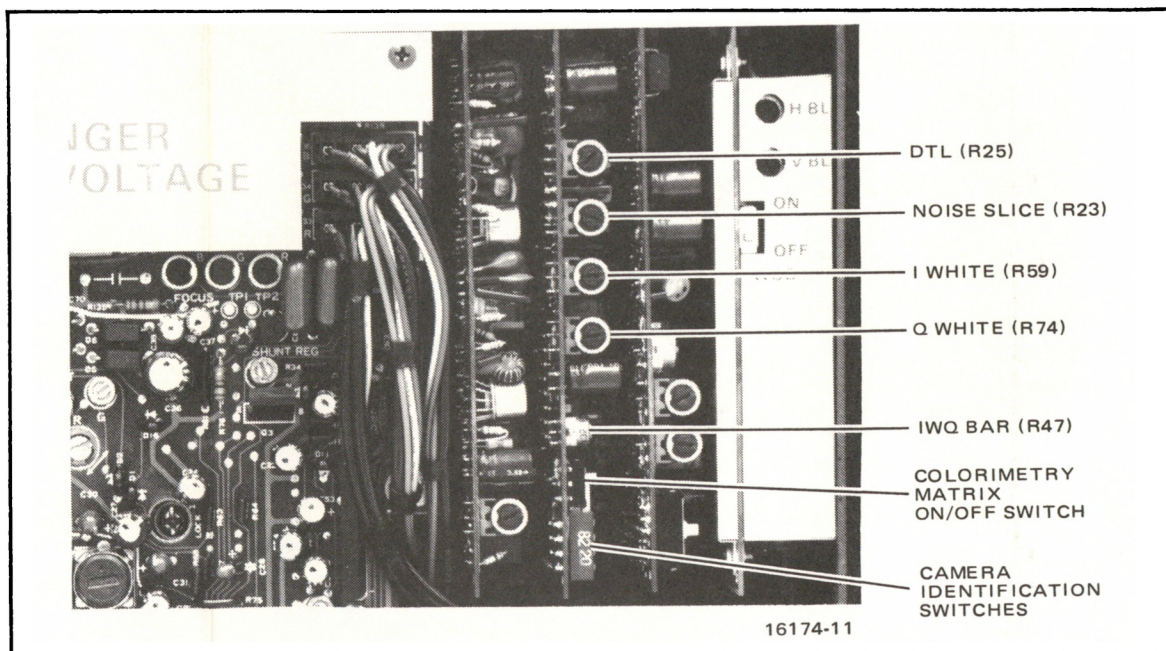

Figure 5-5. Encoder 1 PWA Edge Controls
- STEP 4 See Figure 5-5 and locate camera identification switches on edge of Encoder 1 PWA.